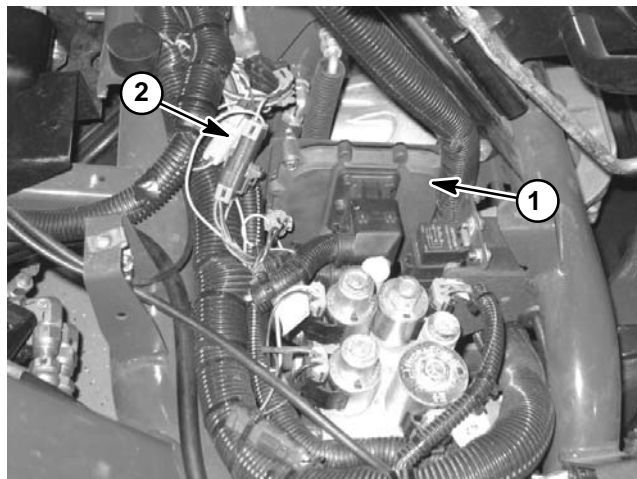

Figure 26
2. Tilt and support operator seat to access TEC controller. Locate wire harness connector for Hand Held Diagnostic Display near TEC controller. Carefully remove cap from harness connector (Fig. 26).